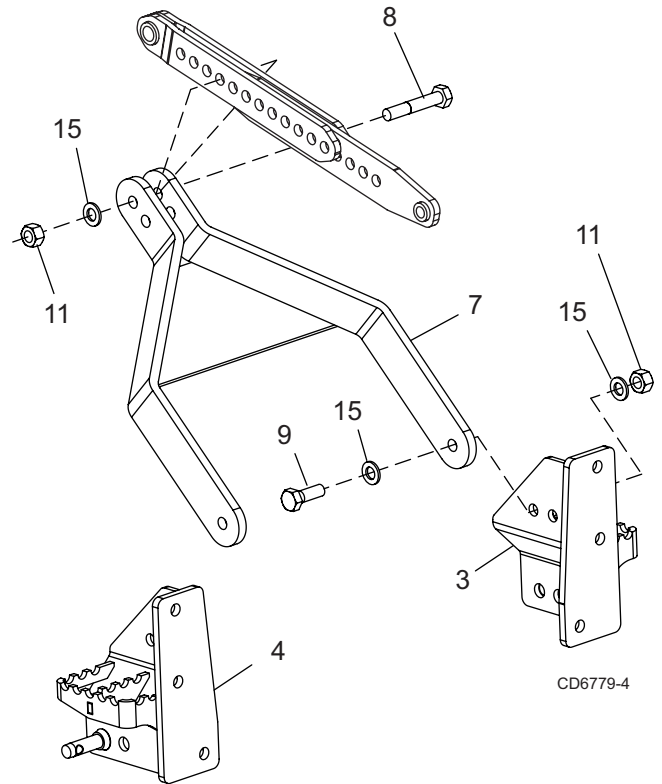

Figure 5. Lock Bar Installation
3. Attach lock bar (7) to right (4) and left (5) rear brackets using cap screws (9), four (two per side) hardened flat washers (15), and hex nuts (11). Do not tighten nuts at this time.
4. Swing lock bar up and attach it to the double top link bar using cap screw (8), hardened flat washer (15), and hex nut (11). See Figure 5.